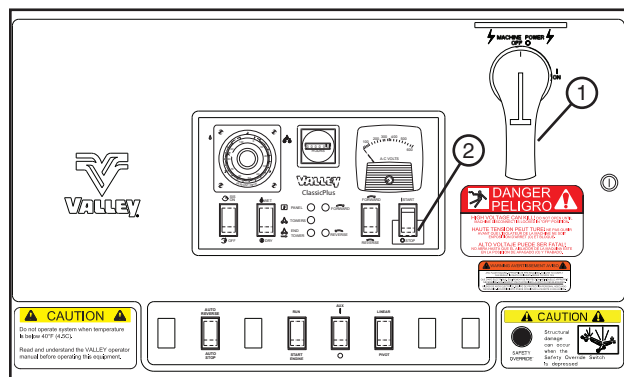

Figure 76-2 1. START-STOP Switch
1. Press the START-STOP switch to the STOP position. See figure 76-2.
2. Turn the main disconnect switch to the OFF position. See figure 76-2.